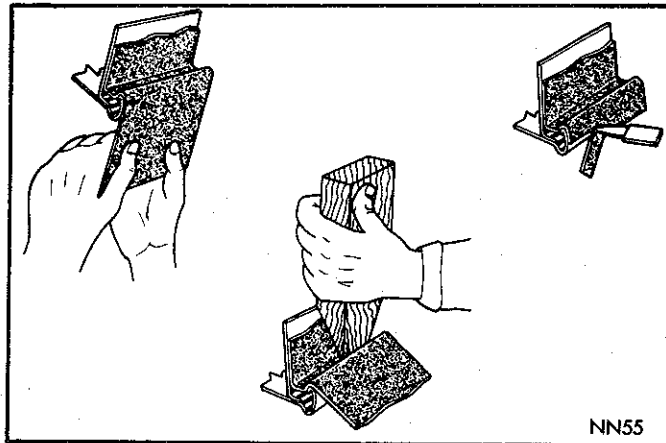
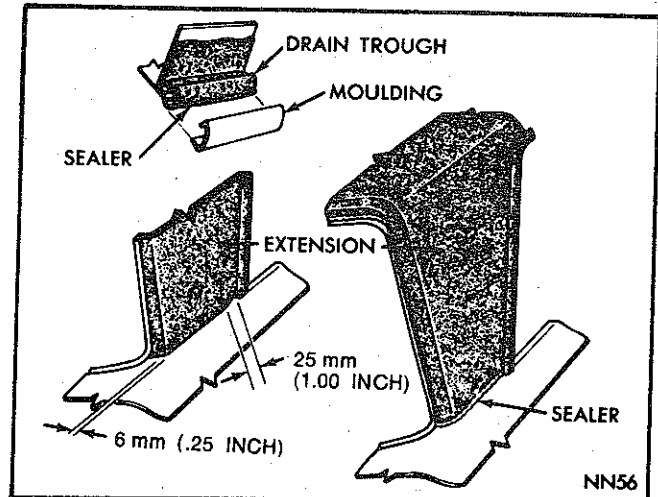

Fig. 9—Positioning cover at drain trough
Fig. 10—Sealing cover at roof extension
(17) Trim excess material hanging below drain trough about 3 mm (1/8") above lower edge of the flange (Fig. 9).
(18) Apply sealer over raw edge of trim cover at roof extension and refit moulding.
(19) Apply a bead of sealer to the edge of trimmed cover at front and rear windshield opening and blend upward to form a seal over the edge of the cover. (Refer Fig. 10).
(20) Apply sealer over raw edge of trimmed cover at base of front pillar and position moulding to gutter.
(21) Install windscreen and rear window mouldings.
(22) Install gutter mouldings and emblems.
(23) Remove the masking tape and masking paper.